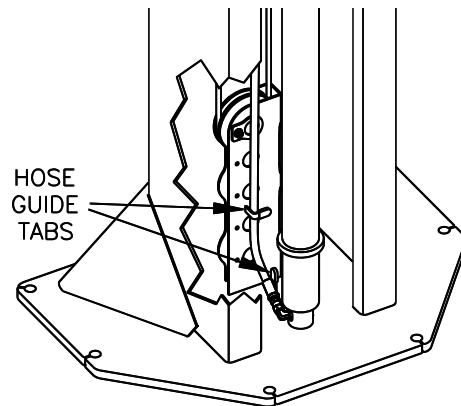

Fig. 17 - Hose Connection
- 44) Each column hose should connect to its cylinder with a 90-degree elbow rotated up from horizontal and be routed thru the Hose Guide Tabs as shown in Fig. 17.